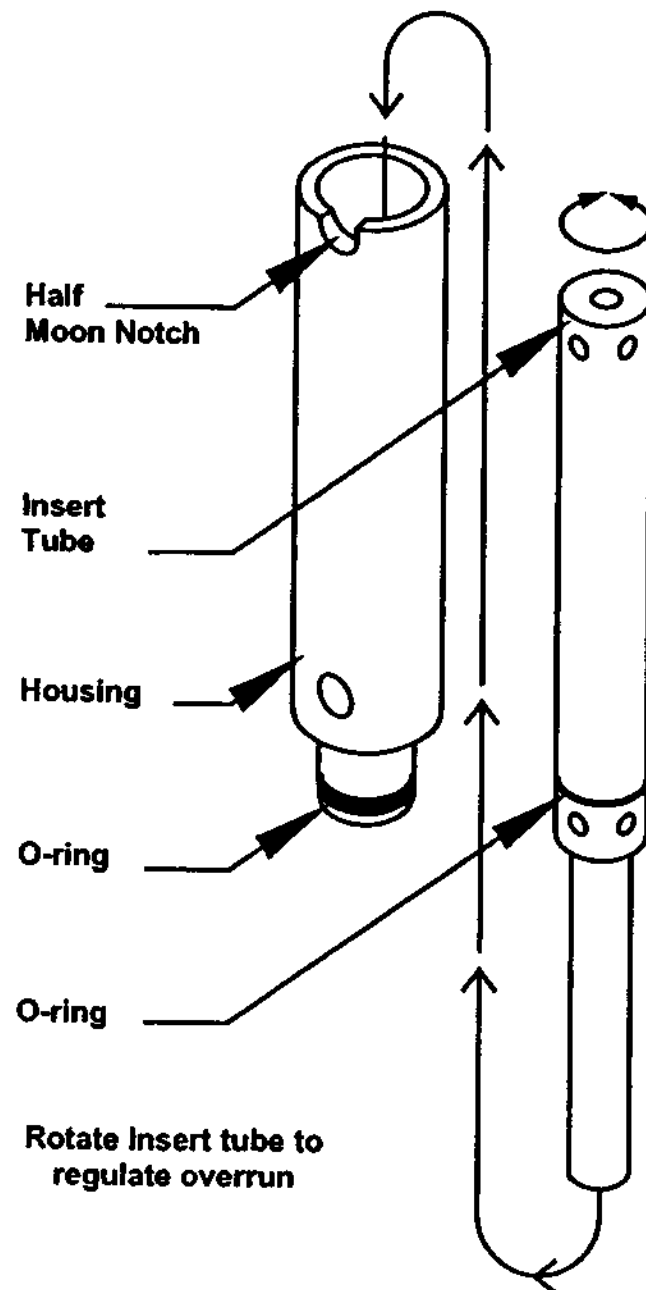

Fig. 11
8. Remove the carburetor tubes (Fig. 11) from the mix pans. Disassemble and clean in the following manner: